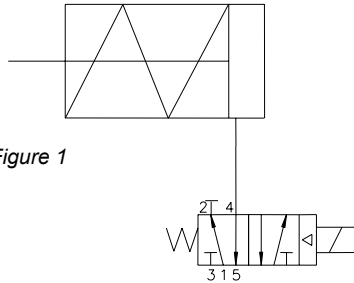

Figure 1
3. Attach tubing according to Figures 1 or 2 below, depending upon application. Attach supply tubing to Port 1 and use 3 and 5 for exhaust.